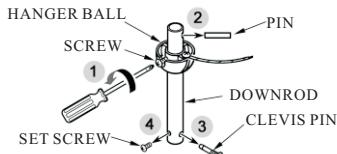

FIG.1
1. Loosen the screw from the hanger ball and remove the pin, set screw and clevis pin from down rod. (see fig 1)